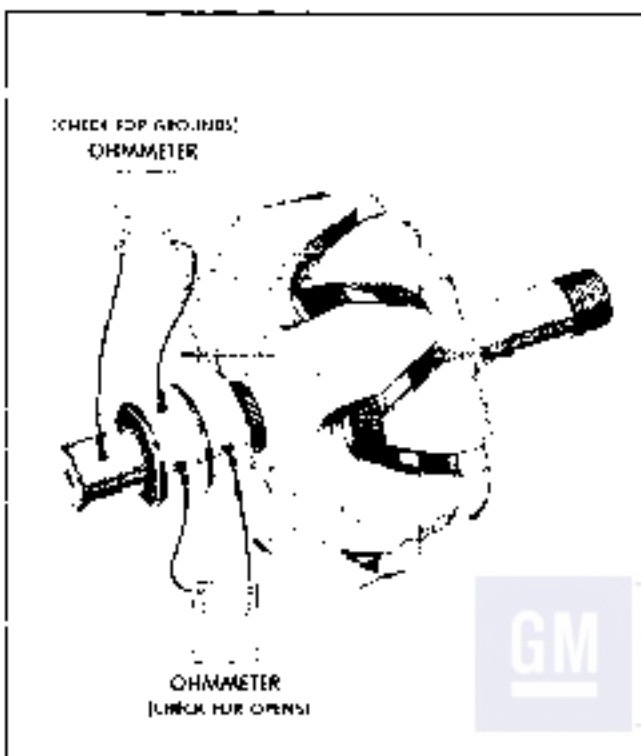

Fig. 6E-11 Checking Rotor
1. To check for grounds, connect a 110-volt test lamp or ohmmeter from either slip ring to rotor shaft, or to rotor poles. If lamp lights or ohmmeter reading is low, the field winding is grounded (Fig. 6E-11).
2. To check for opens, connect test lamp or ohmmeter to each slip ring. If lamp fails to light or if the ohmmeter reading is high (infinite), winding is open (Fig. 6E-11).